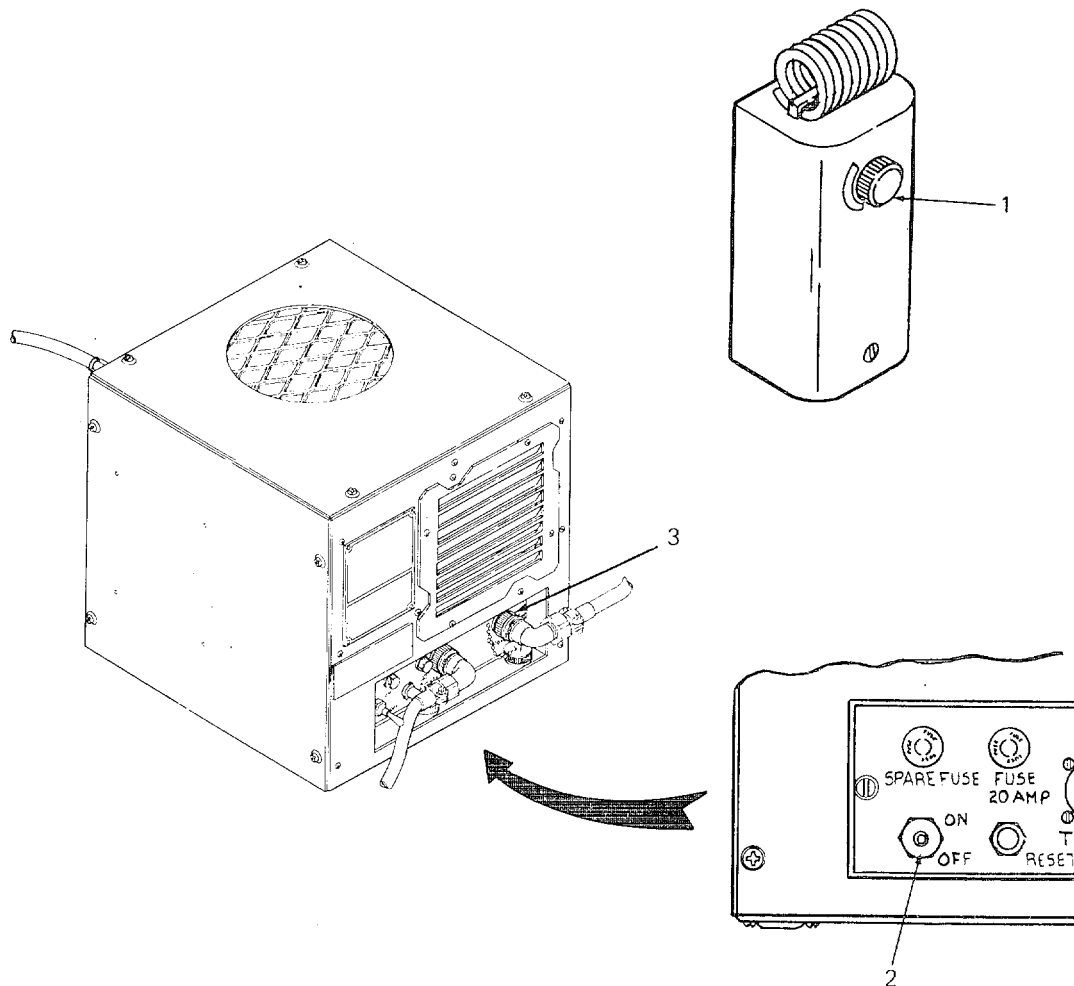

Figure 2-3. Starting and Stopping.
- (1) Perform the preventive maintenance checks and services given in Table 2-3.
- (2) Adjust the thermostat knob (1, Figure 2-3) to the desired setting.